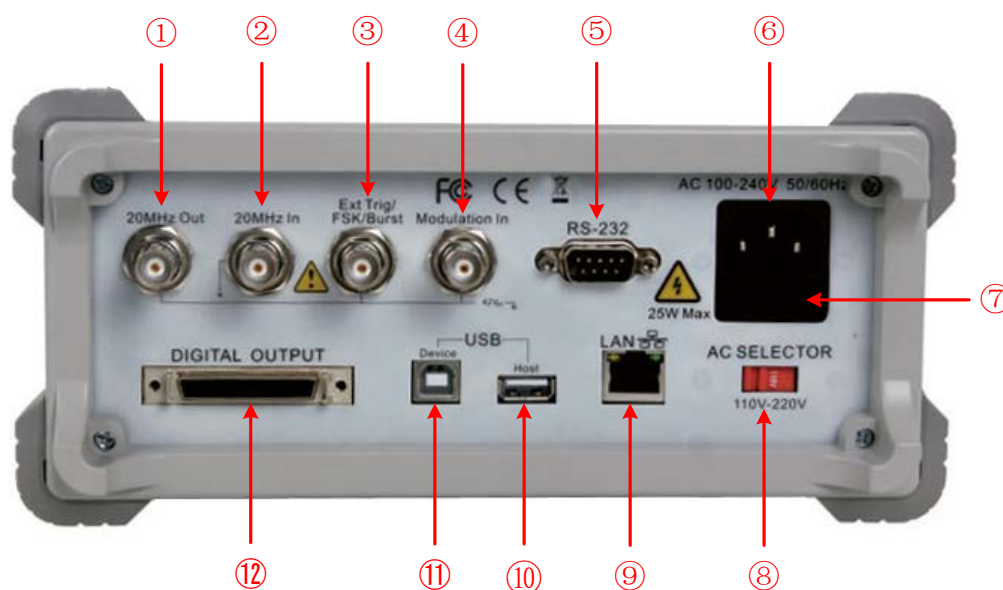

Figure 4-2 Rear panel overview
The series adopt 110V/220V AC power source. Users should regulate the voltage scale of the **Power Switch** according to the standards in their own country (see *Figure 4-2*) at the rear panel and use an appropriate fuse.
- (1) Turn off the power button at the front panel and remove the power cord.
- (2) Check if the fuse installed before leaving factory (250 V, F2AL) can match with the selected voltage scale; if not, pry the cover open using a straight screwdriver (see ⑦ in *Figure 4-2*), change the fuse.
- (3) Regulate the **Power Switch** to the desired voltage scale.